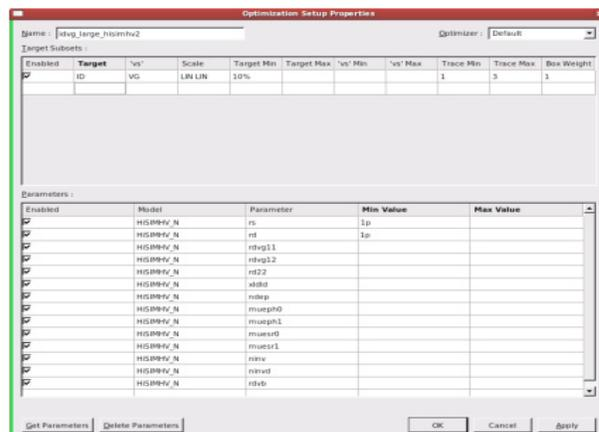

Figure-4 Utmost IV Optimization Setup Property for idvg\_large\_hisimhv2.
**Optimization Setup Property: idvg\_large\_hisimhv2 (Figure-4)**